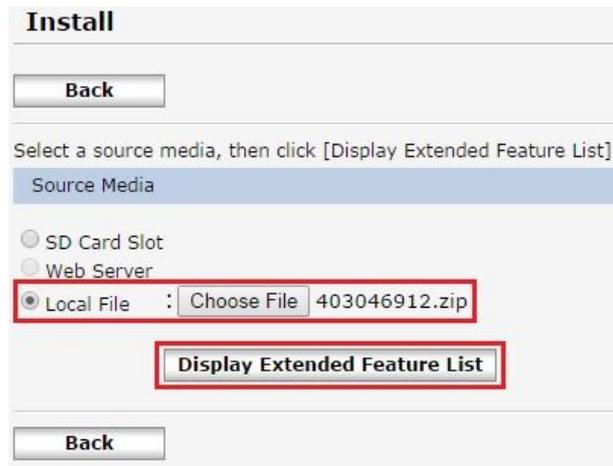

Figure 8: Uploading the application.
3. Select the **Local File** option, then click the **Choose File** button and select the embedded application ZIP file. Then click the **Display Extended Feature List** button (see Figure 8) to upload the file. This may take a minute or two.